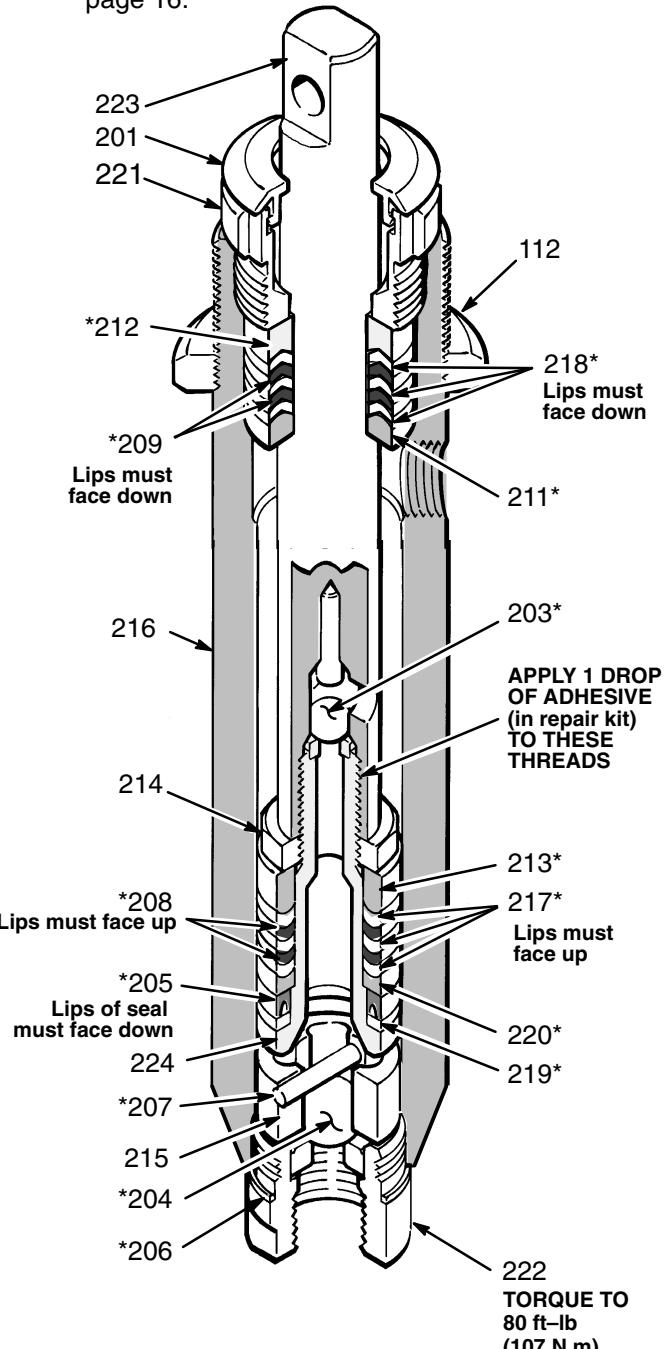

Fig 15
### Disassembly. See Fig 15, except where noted.
- B. Clean all parts thoroughly. Check the outside of the piston rod (223) and the inside of the cylinder (216) for scoring or scratches, which prevent the packings from sealing properly. Replace all worn parts.
- C. Alternate polyethylene and leather packings as shown in Fig 15, starting with the polyethylene packings. Notice that:
1. Stack the backup washer (219\*), U-cup seal (205\*) *lips down*, and female gland (220\*), alternate the polyethylene and leather v-packings (217\*, 218\*) *lips up*, and stack the male gland (213\*) one at a time onto the piston valve (224). See Fig 15.
5. Stack the male gland (211\*), alternate the polyethylene and leather v-packings (218\*, 209\*) *lips down* and stack the female gland (212\*) one at a time into the top of the cylinder. See Fig 15.
6. Loosely install the packing nut (221) and plug (201).
7. Insert the oiled piston rod (223) into the bottom of the cylinder.
8. Assemble the intake valve. Use a new gasket (206\*). Screw the valve into the cylinder and tighten to 80 ft-lb (107 N.m). See Fig 15.
9. Screw down the cylinder locknut (112) until it is finger tight at the bottom of the external cylinder threads. See Fig 15.